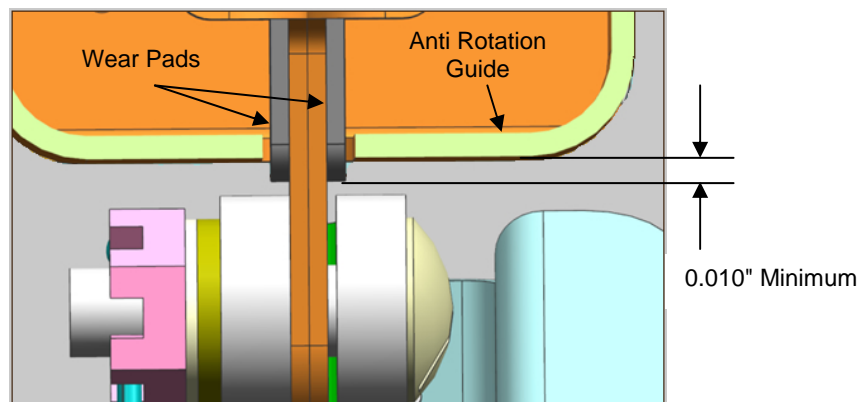

Figure 5-4: Final Installation
4. Check the control yoke for smooth freedom of movement through the full range of normal motion and verify minimum wear pad extension beyond the anti-rotation guide. See **Figure 5-4**.